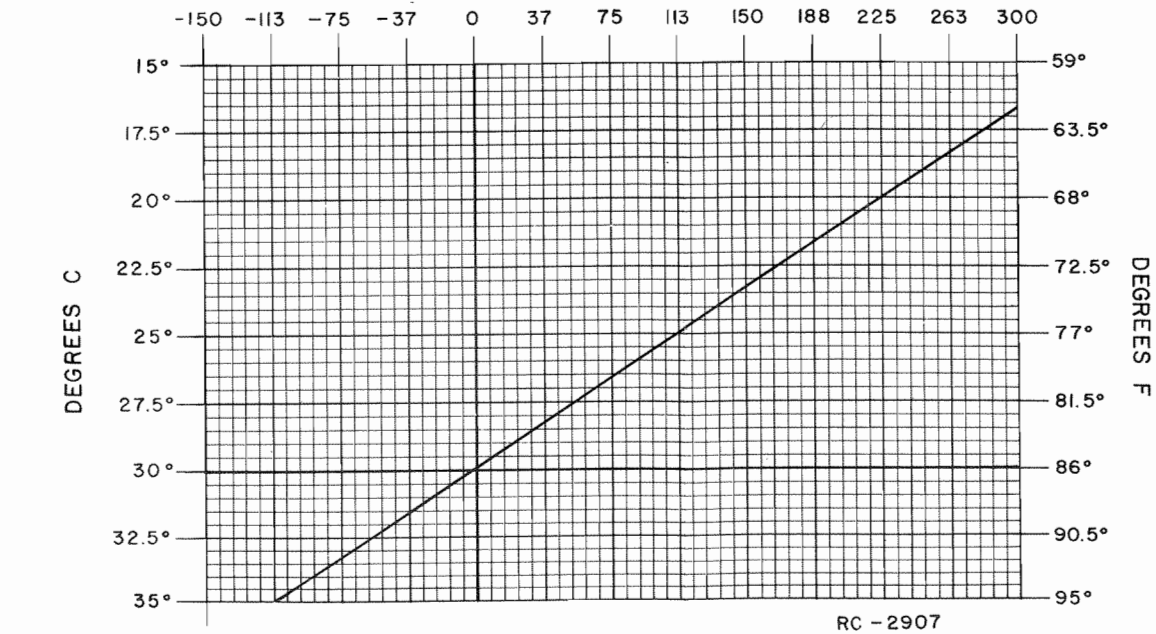

Figure 3 - Frequency Characteristics Vs. Temperature
First, check the frequency to determine if any adjustment is required. (Refer to frequency offset chart, Figure 3.) The frequency measurement requires equipment with an absolute accuracy that is 5 to 10 times better than the tolerance to be maintained. When adjusting the frequency, the entire radio should be as near as possible to an ambient temperature of 30°C (86°F).
To set crystal frequency using "beat frequency" method, the temperature should be at 30°C (86°F). If the temperature is not 30°C, then offset the "ON FREQUENCY" signal (at the receivers input), as a function of actual temperature, by the frequency ERROR FACTOR shown in Figure 3.
2. Maintain the radio at 30°C (±5°C, -10°C) and offset the oscillator, as a function of actual temperature, by the frequency error shown in Figure 3.